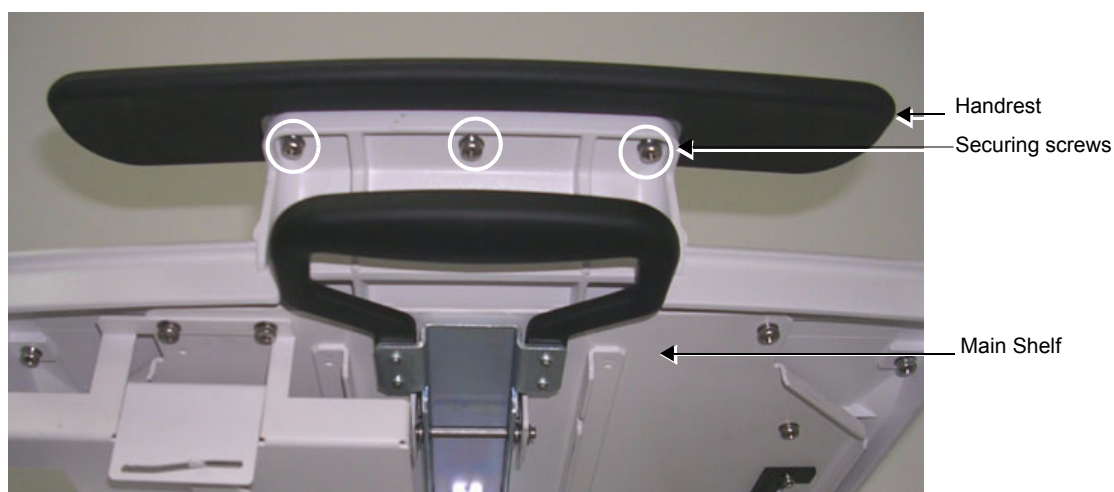

Figure 8-104 Handrest Secured to Main Shelf (viewed from below)
- 2) Working from the *front* of the SafeLock Cart and below the main shelf, loosen and remove the three screws that secure the handrest to the main shelf - see Figure 8-104 below.